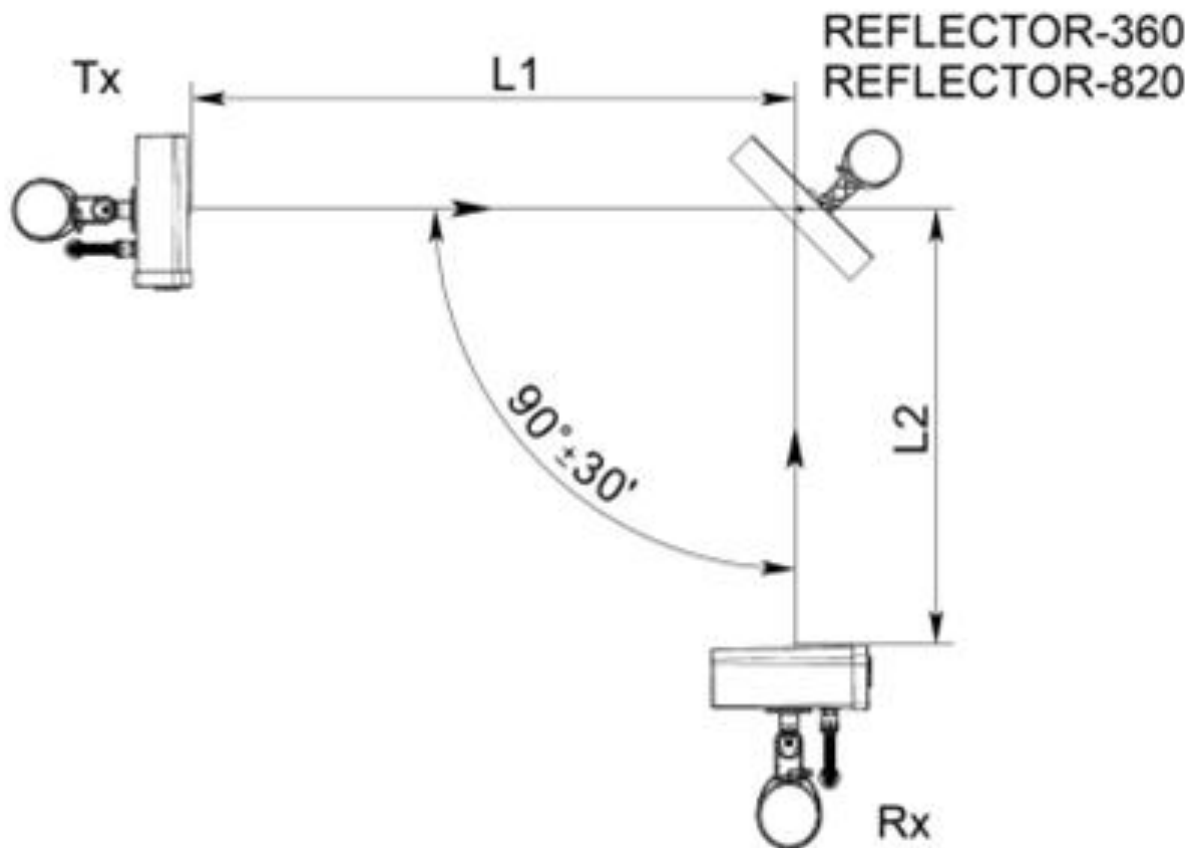

Figure 2.14 – Installation of the sensors using REFLECTOR-360 (REFLECTOR-820)
2.3.9.2 When the sensor is used with REFLECTOR-360 (see Figure 2.14) the total length of the detection zone  $L1+L2$  (where  $L1$  – distance between Tx and the reflector,  $L2$  – distance between the reflector and Rx) should not exceed:
- 2.3.9.3.1 Mount the Tx unit, Rx unit and the reflector according to pp. 2.3.1-2.3.3 of the present User Manual and Figure 2.14. Mount the Tx unit, Rx unit and the reflector on the same height respectively to the ground.